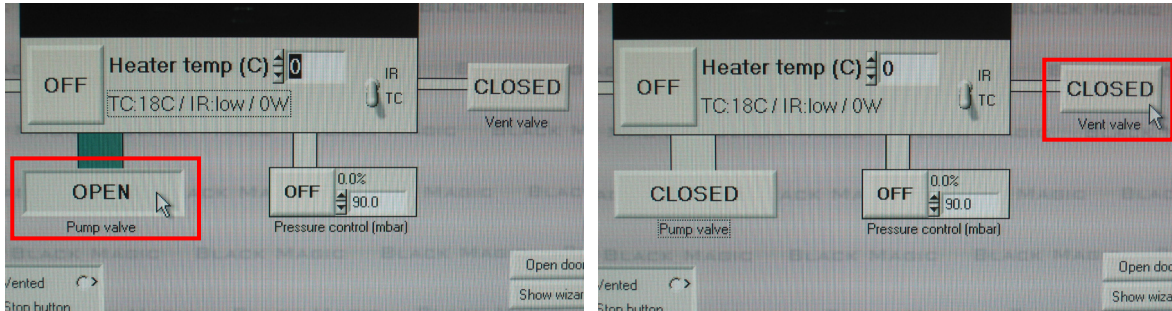
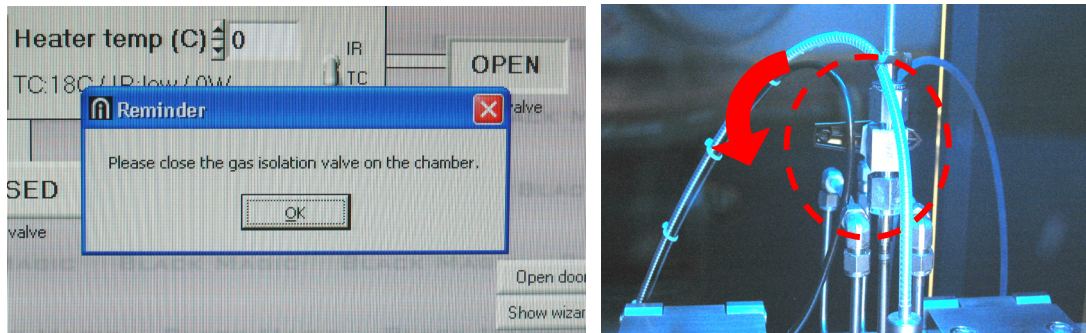

Figure 7. Close pump valve (left), then open vent valve (right).
Figure 8. Close gas isolation valve request (left), and isolation valve (right)
11- Left Click on the *Pump Valve* to close it (Figure 7, left).
- 12- Left click *Vent Valve* to open it (Figure 7, right). A Reminder Window will open asking you to close the gas isolation valve (Figure 8, left). This is a manual ball valve located inside the enclosure and above the chamber. To close the gas isolation valve:
- a. Open the chamber enclosure door and verify that the valve is shut, i.e., perpendicular to the gas line (Figure 8, right). Close the chamber enclosure door.